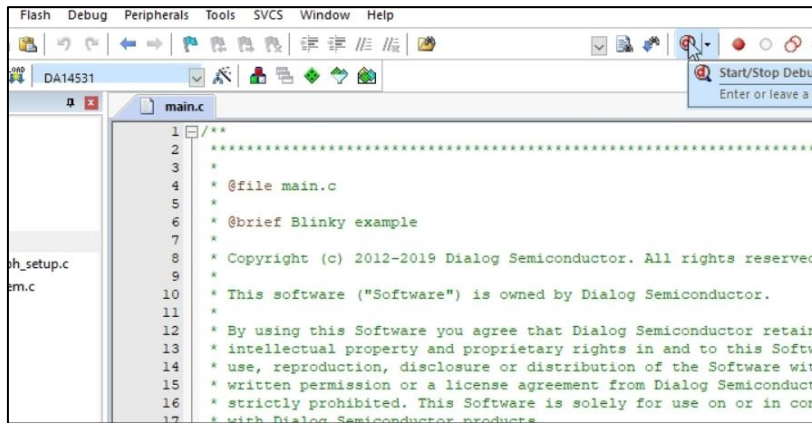

Figure 15: Keil – Start Debugger
15. After the build is done, click the **Start Debugger** button. See Figure 15.